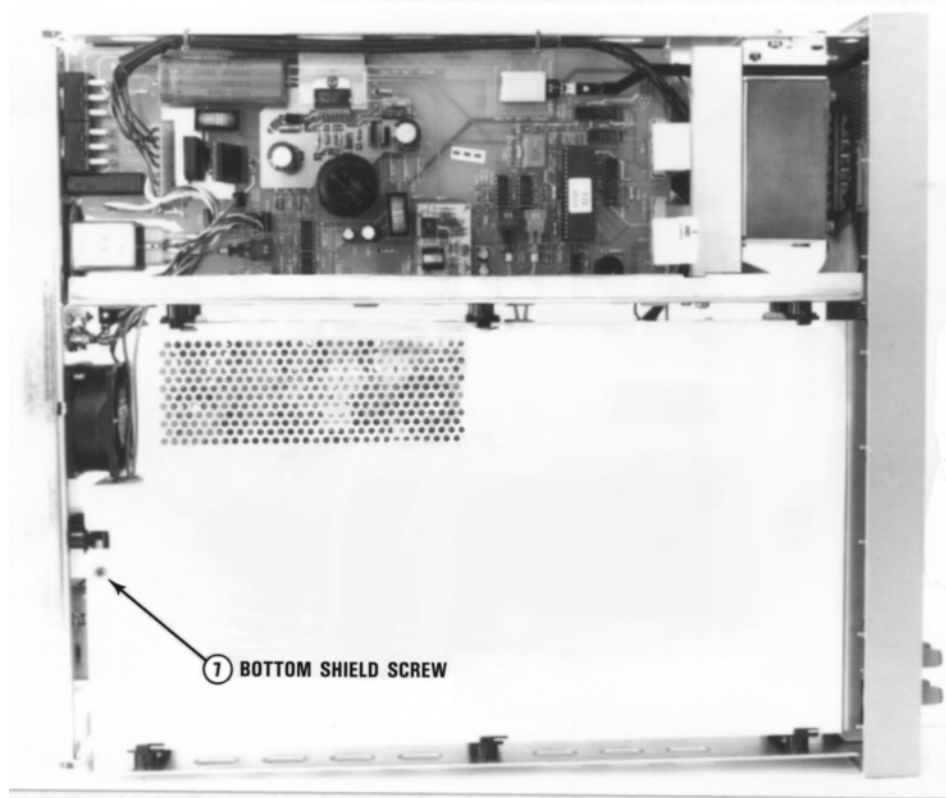

Figure C-5 3458A inside bottom view
- 1** Refer to **Figure C-5**. Use the #TX 10 Torx driver to remove the bottom shield screw. Then remove the shield. Pull the shield toward the rear of the instrument until the shield retainers line up with the slots in the shield. Lift the shield off.
- 3** Refer to **Figure C-5**. Replace the bottom shield. Line up the slots on the shield with the shield retainers. Then push the shield toward the front of the instrument until the shield screw hole lines up with the screw hole in the chassis. Use the #TX 10 Torx driver to reinstall the shield screw.